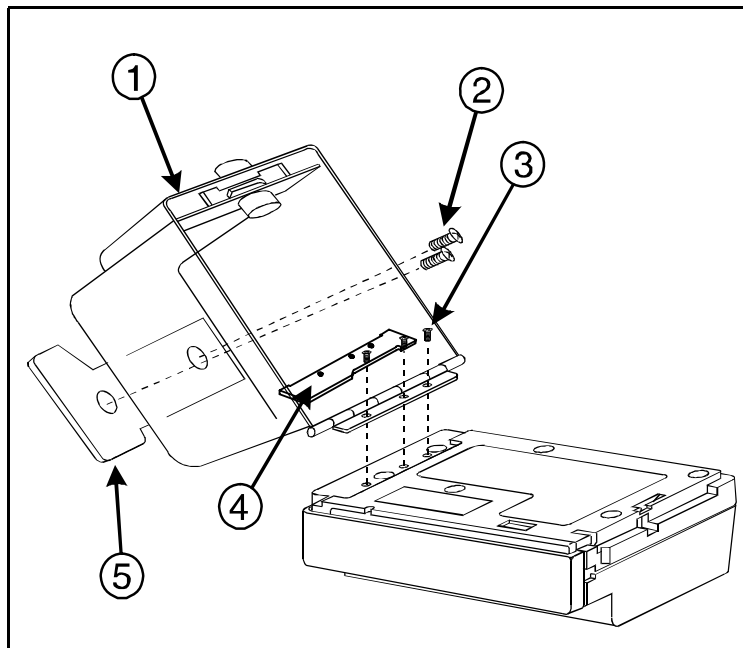

Figure 6-1. Bag Cover Removal
1. Refer to Figure 6-1. Unlock and open the Bag Cover (1).
2. Remove the three pan head screws (3). Save the screws for use during reassembly.
3. Remove the Hinge Cover (4).
4. (Optional, if required) Remove the Mounting Plate (5), remove the two screws (2) that secure it to the Bag Cover (1).